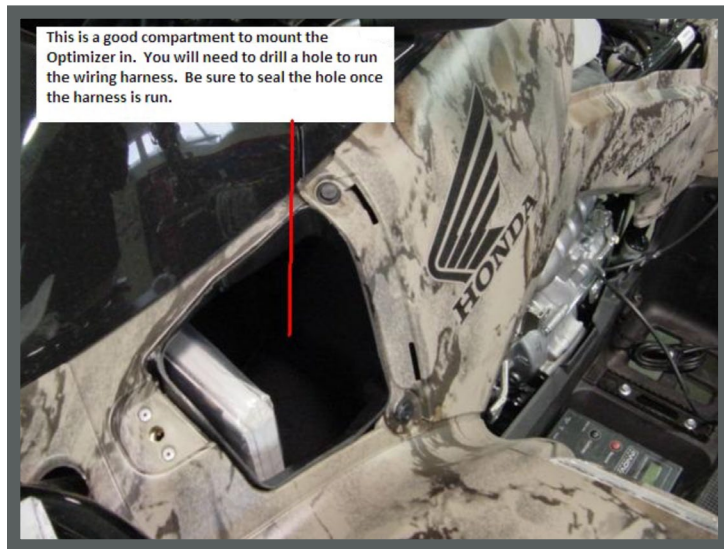

Figure 1
3. Drill a hole in the **Left Side Storage Compartment** large enough to fit the **Optimizer connectors** through. Feed the **Optimizer Wiring Harness** through the hole. (See fig 1)